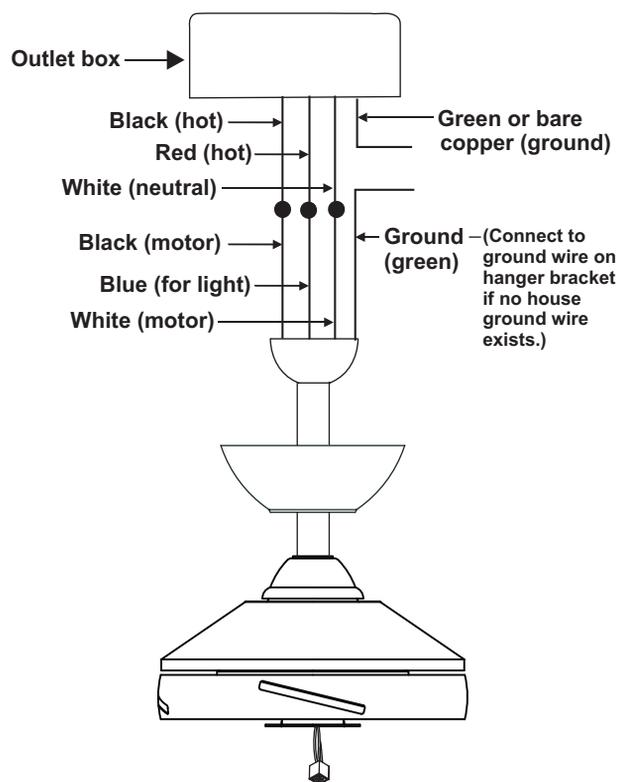

Figure 10
a. Connecting the wires from the fan to the wires from the ceiling outlet box. (Fig. 10)